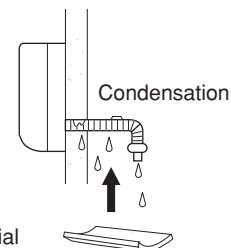

Fig. 44
- If the drain hose will run in the room, insulate the hose with insulation* so that chilled condensation will not damage furniture or floors. (Fig. 44)